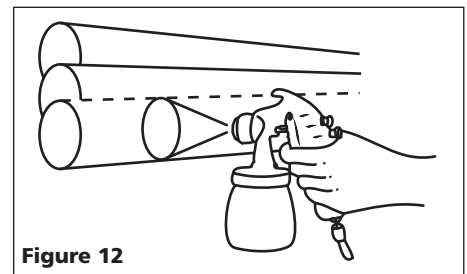

Figure 12
4. Overlap strokes just enough to obtain an even coat (See Figure 12).